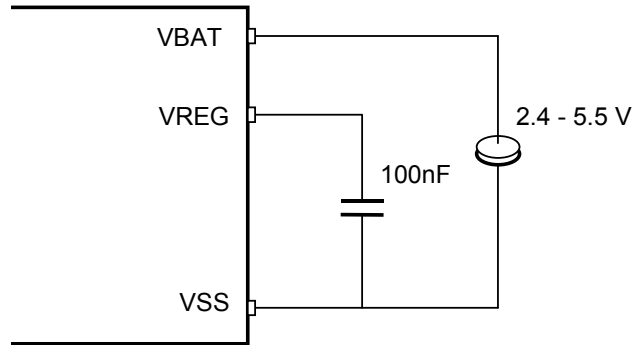

Figure 2-3. Supply configuration for ROM circuit operation using the internal regulator.
2. Using the internal voltage regulator (see Figure 2-3).